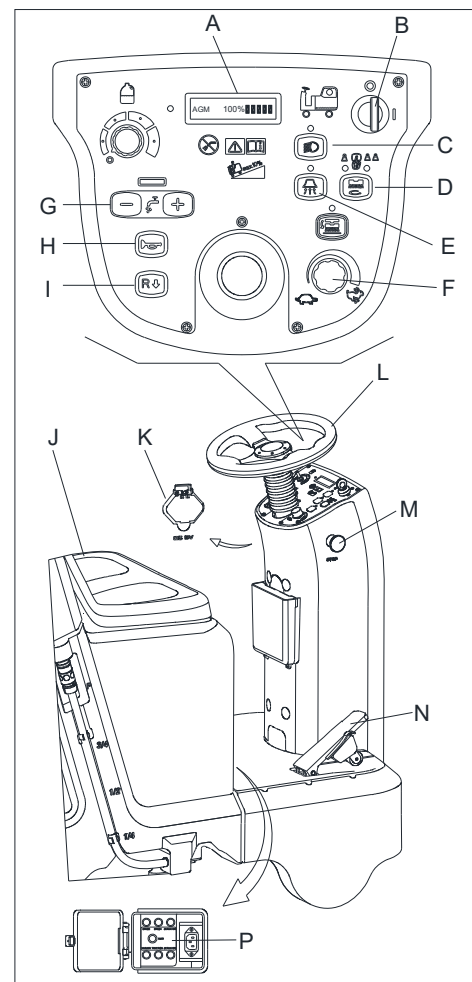

Figure 7
2. Sit on the seat (J, Figure7), insert the key switch (B) and turn it to “I”. If the LCD (A, Figure7) is 100%, the batteries are fully charged for use. If the LCD (A, Figure7) is 10%, batteries must be charged before operation. [Refer to MENTAINENCE chapters for batteries charging]
3. Press One-Start button (D, Figure7) to start the machine, the squeegee and brushes are released to the floor automatically, vacuum motor begins to work.
4. Depress the accelerate pedal (N Figure7), operate the machine forward or backward by steering wheel (L Figure7) together with forward-backward switch (I Figure7), you can adjust speed by speed adjusting knob (F Figure7).
5. Adjust solution flow by solution adjusting button (G Figure7) base on cleaning requirement.
6. You can charge your phone or pad through USB charging port (K Figure7) when the key switch (A Figure7) is turned to “ON”.
7. Press the horn button (H Figure7) to warn people when necessary.
8. If necessary, press the emergency button(M Figure7) for machine emergency stop.
The brush motor, vacuum motor, drive motor and control circuit are protected by overload protector (P Figure7). When the overload protector trip, do not reset it immediately without finding out the root cause, and make sure the motor is cooling-off before reset.
9. Loosen the accelerate pedal (N, Figure7), the machine stops running.
10. Press One-Start button (D, Figure7) to stop brushes and vacuum motor. The brushes and squeegee are lifted up from the floor automatically. The vacuum system is closed after a few seconds delay.